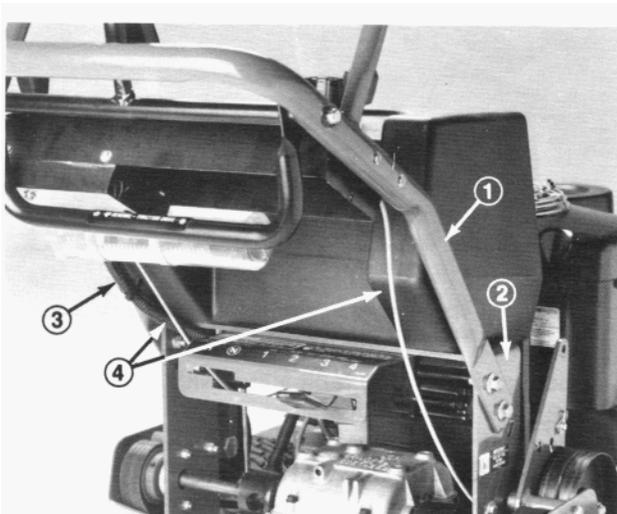

Figure 4
1. Align upper handle mounting holes with desired mounting holes in frame (upper or lower set of holes) and secure each side with (2) 3/8 -16 x 1" lg. flange capscrews and flange nuts (Fig. 4). Torque capscrews to 23-27 ft.-lbs. Route cables and wire harness inside of frame (Fig. 4)